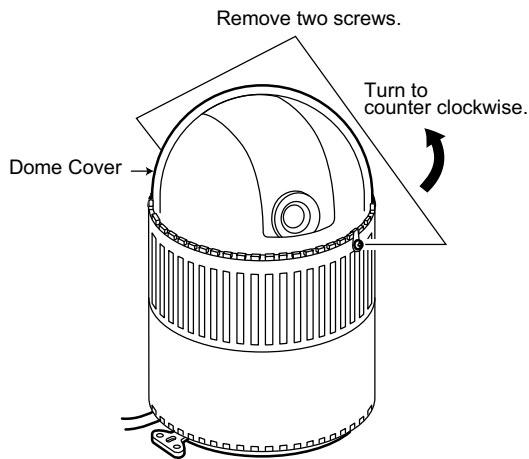

Fig. 2-1
- Referring to Fig. 2-1, remove two screws that secure the Dome Cover and turn the Dome Cover to counterclockwise direction, then remove the Dome Cover.